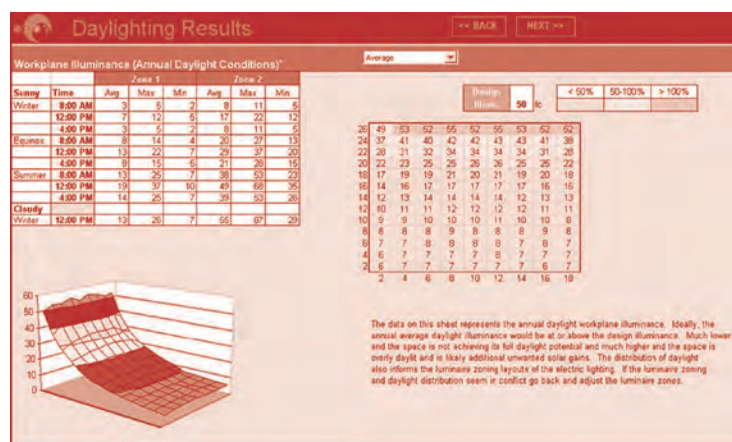

Figure 2. This output screen from SPOT shows the work plane illumination levels as they vary in the course of a day and throughout the year.
ing performance under a sampling of conditions (see Figure 2); and (3) photosensor placement recommendations for each luminaire zone.